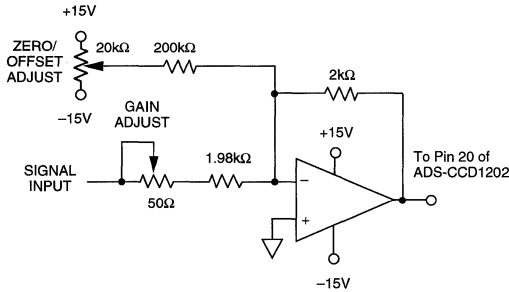

Figure 2. ADS-CCD1202 Calibration Circuit
Bypass all power supplies, as well as the REFERENCE OUTPUT (pin 21), to ground with 4.7µF tantalum capacitors in parallel with 0.1µF ceramic capacitors. Locate the bypass capacitors as close to the unit as possible. If the user-installed offset and gain adjusting circuit shown in Figure 2 is used, also locate it as close to the ADS-CCD1202 as possible.
- The ADS-CCD1202 achieves its specified accuracies without the need for external calibration. If required, the device's small initial offset and gain errors can be reduced to zero using the input circuit of Figure 2. When using this circuit, or any similar offset and gain-calibration hardware,
(Refer to Figures 2 and 3)
Any offset and/or gain calibration procedures should not be implemented until devices are fully warmed up. To avoid interaction, offset must be adjusted before gain. The ranges of adjustment for the circuit of Figure 2 are guaranteed to compensate for the ADS-CCD1202's initial accuracy errors and may not be able to compensate for additional system errors.
All fixed resistors in Figure 2 should be metal-film types, and multiturn potentiometers should have TCR's of 100ppm/°C or
less to minimize drift with temperature. In many applications, the CCD will require an offset-adjust (black balance) circuit near its output and also a gain stage, presumably with adjust capabilities, to match the output voltage of the CCD to the input range of the A/D. If one is performing a "system I/O calibration" (from light in to digital out), these circuits can be used to compensate for the relatively small initial offset and gain errors of the A/D. This would obviate the need for the circuit shown in Figure 2.